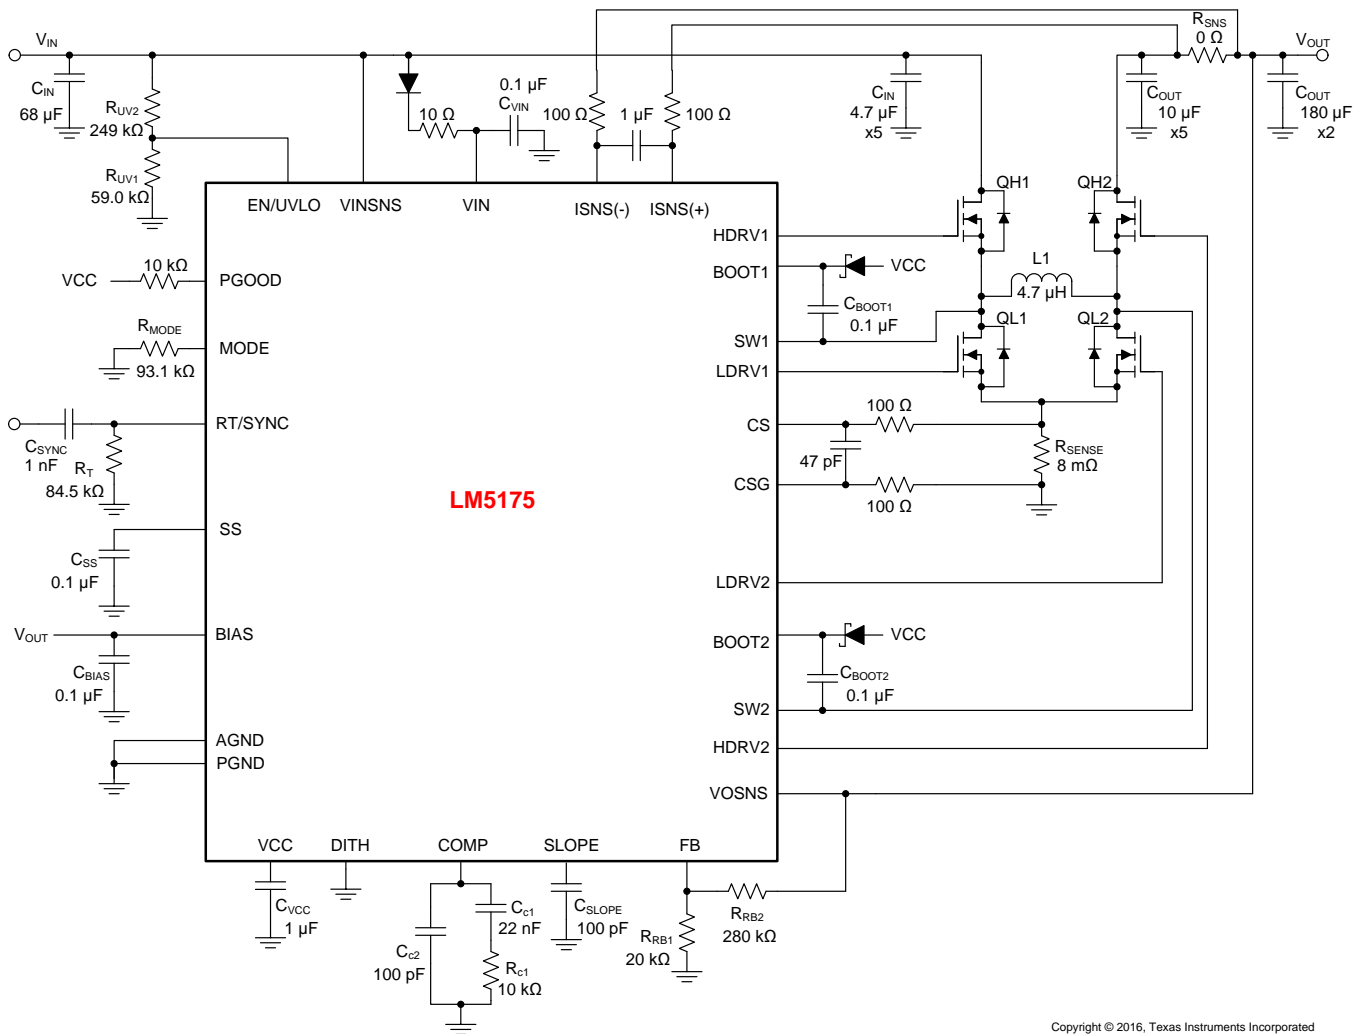

Figure 24. LM5175 Four-Switch Buck Boost Application Schematic
The LM5175 has a gm error amplifier for loop compensation. The gm amplifier output (COMP) range is 0.3 V to 3 V. Connect an R_{C1} - C_{C1} compensation network between COMP and ground for type II (PI) compensation (see Figure 24). Another pole is usually added using C_{C2} to suppress higher frequency noise.
The low-side gate drivers are powered from VCC and the high-side gate drivers HDRV1 and HDRV2 are powered from bootstrap capacitors C_{BOOT1} (between BOOT1 and SW1) and C_{BOOT2} (between BOOT2 and SW2) respectively. The C_{BOOT1} and C_{BOOT2} capacitors are charged through external Schottky diodes connected to the VCC pin as shown in Figure 24.
Typically a combination of ceramic and bulk capacitors is needed to provide low ESR and high ripple current capacity. The complete schematic in Figure 24 at the end of this section shows a good starting point for C_{OUT} for typical applications.
The maximum RMS current occurs at $D = 0.5$, which gives $I_{CIN(RMS)} = I_{OUT}/2 = 3$ A. A combination of ceramic and bulk capacitors should be used to provide short path for high di/dt current and to reduce the output voltage ripple. The complete schematic in Figure 24 is a good starting point for C_{IN} for typical applications.
For some application circuits, it may be required to add a filter network to attenuate noise in the CS and CSG sense lines. Please see Figure 24 for typical values. The filter resistance should not exceed 100 Ω .